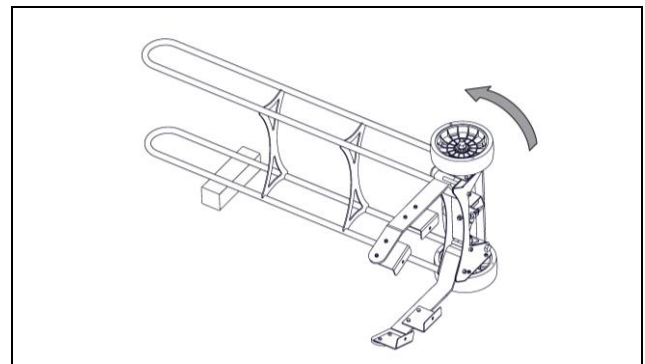

Figure 1
1. Unpack and remove kit from shipping carton. Position the Tire Cart on its side. Use a 4 x 4 block or the carton the kit came in to help support the handle of the cart (Figure 1).